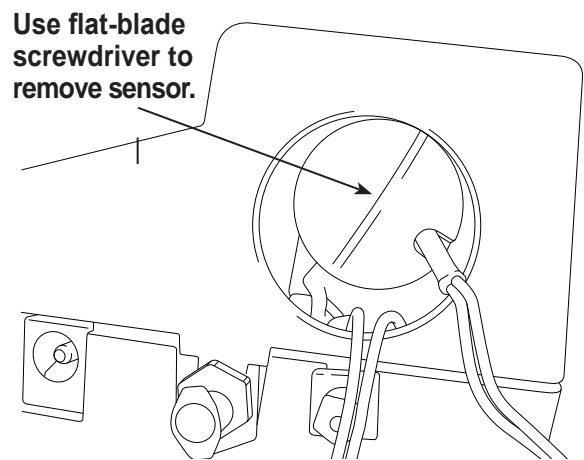

Figure 13
7. Move the cap and harness aside. Hold the lead from the sensor, and use a flat-blade screwdriver to unthread and remove the oxygen sensor. See Figure 13.